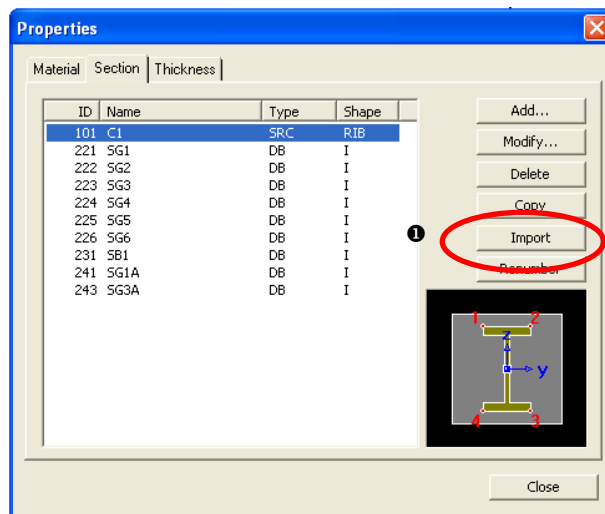

Figure 1.19 Section data before Import
Model / Properties /  **Section** > **Import** (❶ of Figure 1.19)